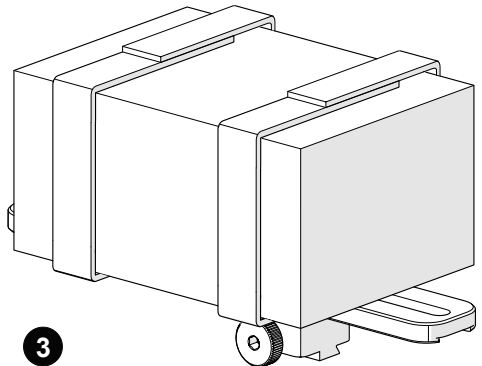

Fig. 152 - Mount bracket on a frame bar
3. Secure the preamp to the bracket attaching each side of the velcro (*Fig. 152*).